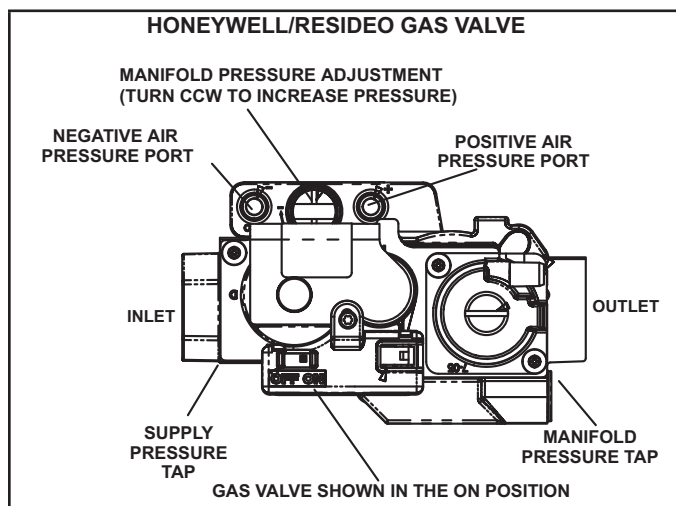

FIGURE 29
Gas Valve Operation (FIGURE 29)
- 6 - Move switch on gas valve to OFF. Do not force. See FIGURE 29.
- 8 - Move switch on gas valve to ON. Do not force. See FIGURE 29.
- 4 - Move switch on gas valve to OF. Do not force. See FIGURE 29.
A port on the inlet side of the gas valve (FIGURE 29) provides access to the supply pressure tap. Loosen the screws and connect a manometer to measure supply pressure. The minimum supply line pressure is 4.5" - 10.5" w.c. for natural and 11.0 - 13.0" wc for LP/Propane. Tighten after measurements have been taken.
- 1 - Remove the threaded plug from the outlet side of the gas valve (FIGURE 29) and install a field-provided barbed fitting. Connect measuring device "+" connection to barbed fitting to measure manifold pressure.